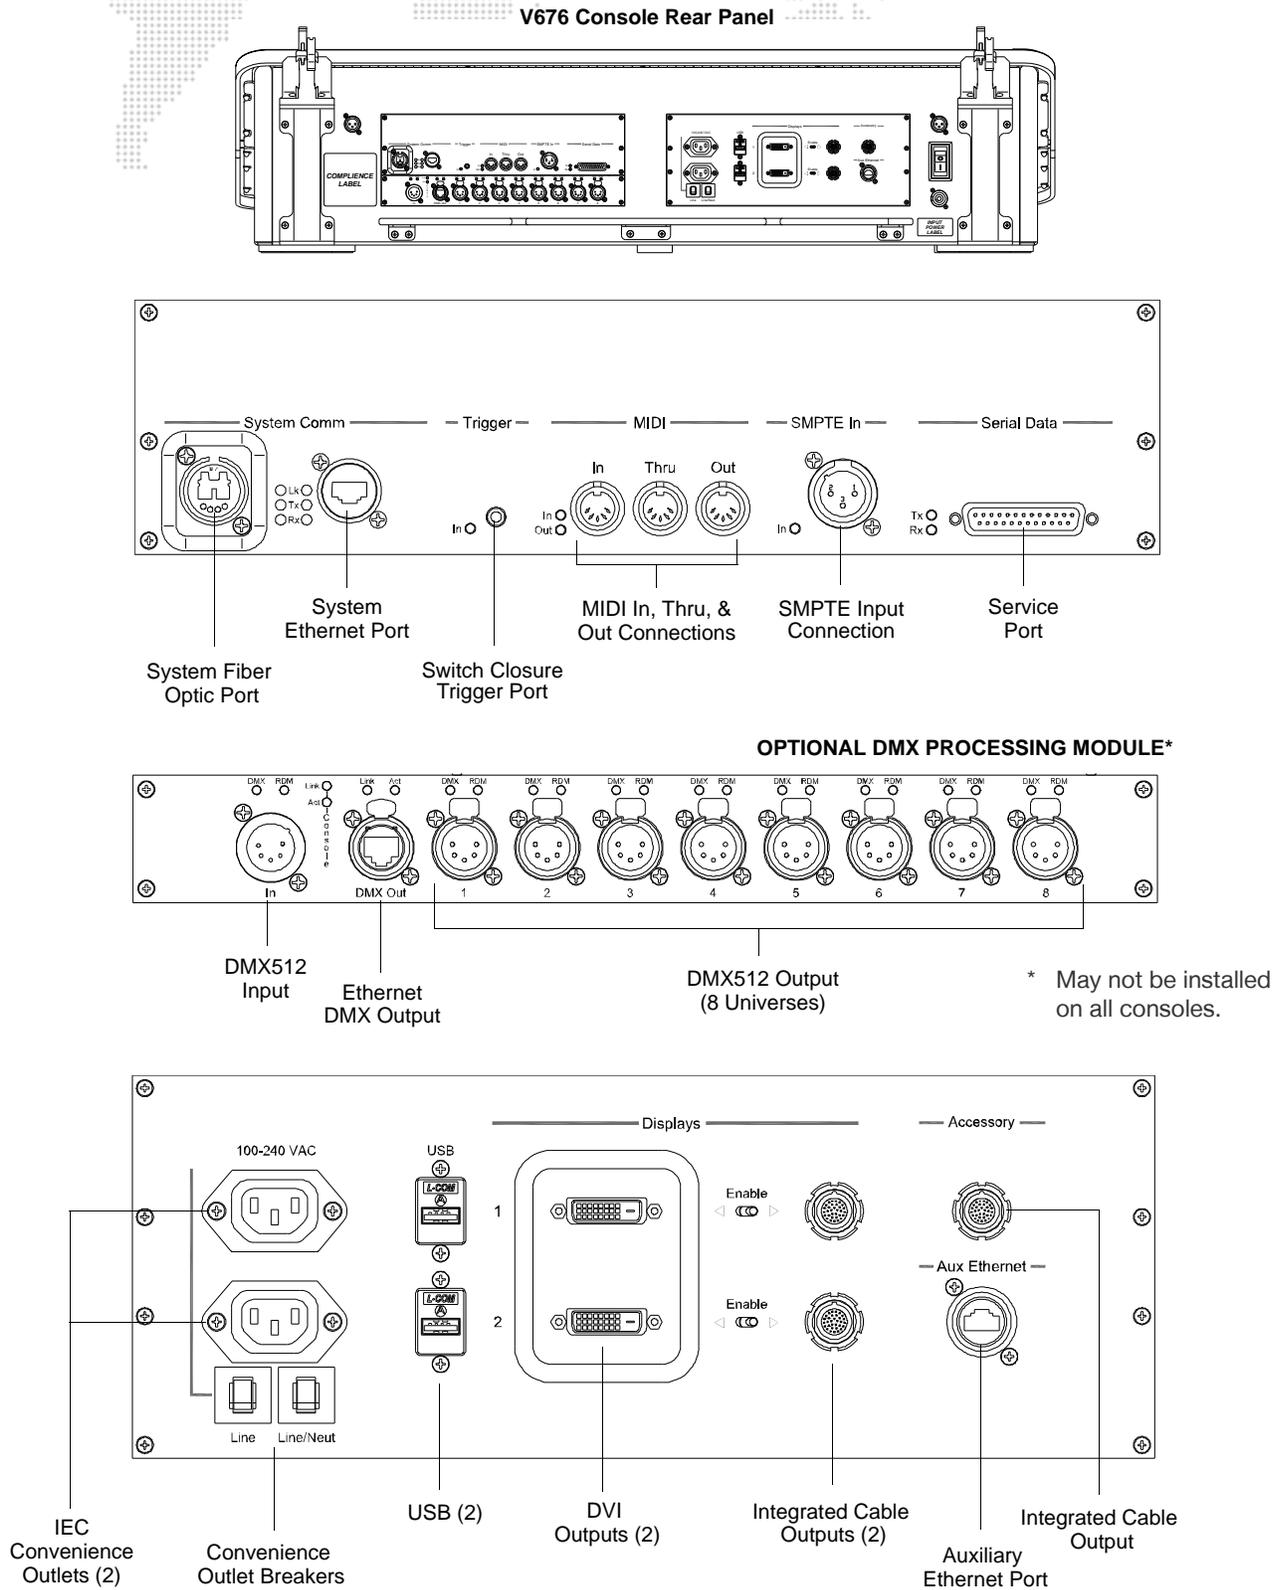

Figure 8: V676 Console Rear Panel Connections
Step 8. Connect console to system using using either copper or fiber optic Ethernet (Figure 8).